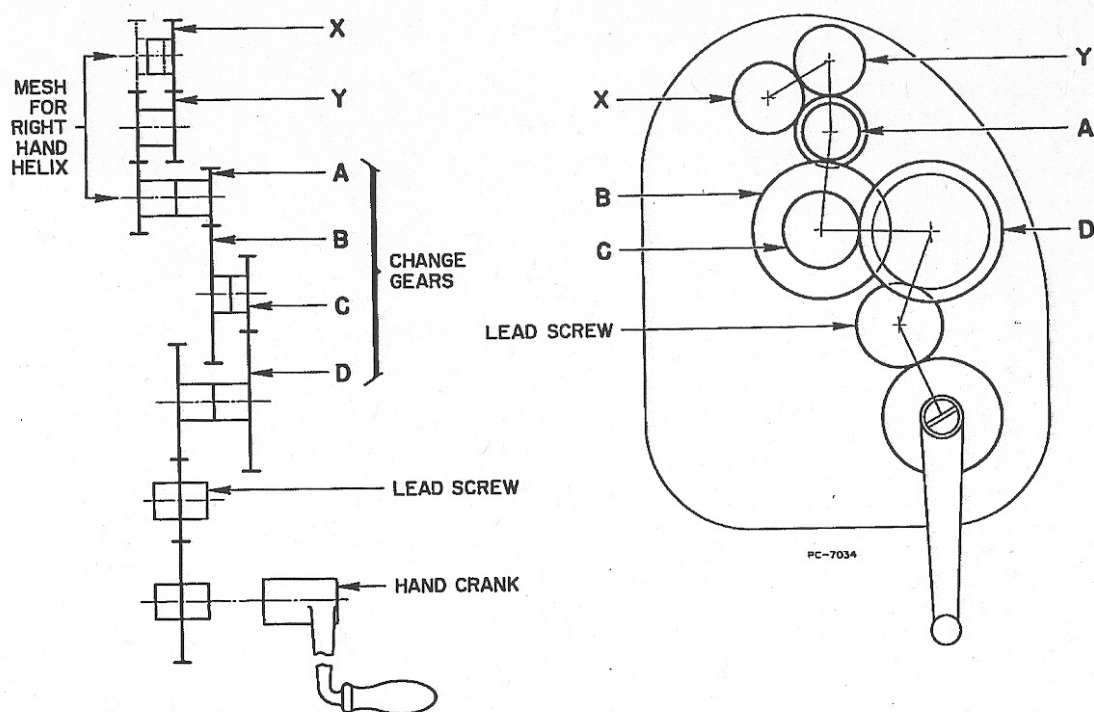

Figure 61A
**Setting Up the Change Gears.** Remove the circular cover on the apron at the right-hand end of the table. It is held in position with a slotted screw. Then place the change gear driving mechanism on the apron, and fasten securely in position. Place the change gears in the positions indicated for the desired lead, being careful not to get intermediate gears B and C interchanged (Figures 61A and 61B).